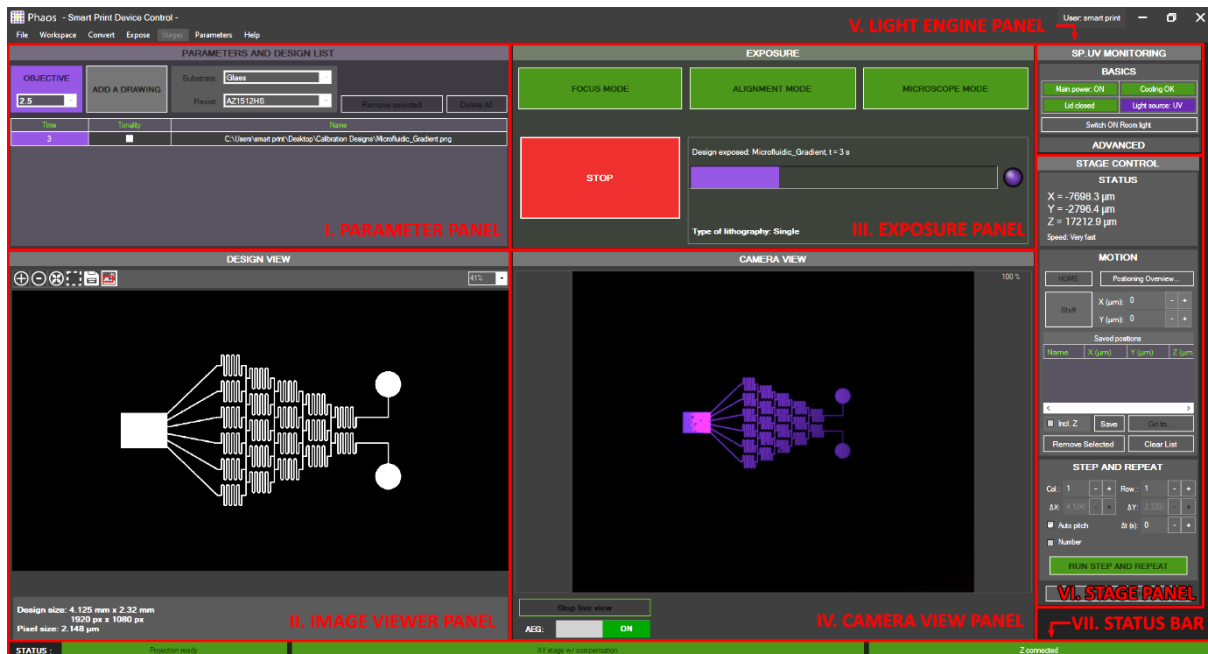
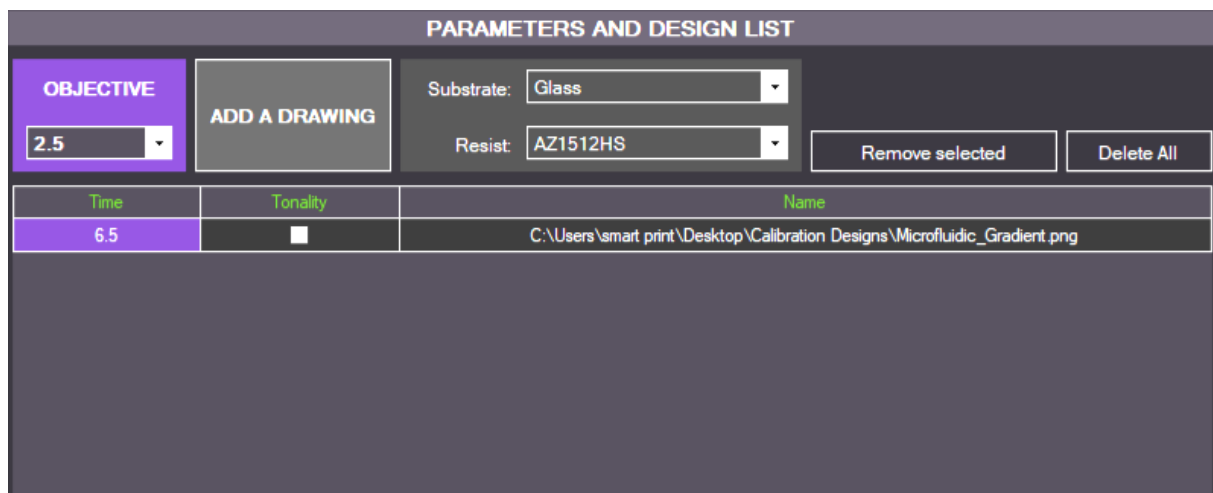

Figure 11 – Phaos main window
Figure 14 - "PARAMETER" panel
The software main interface is composed of 6 panels (Figure 11):
- On the **PARAMETER** panel (Figure 11), choose your **objective**, **substrate** and **resist** from the corresponding drop-down lists (Figure 14).
- Click on the **FOCUS MODE** button in the **EXPOSURE** panel (Figure 11)
- Click on the **EXPOSE SELECTED DRAWING** button (Figure 11) in the **EXPOSURE** panel.
- In the **PARAMETER** panel (Figure 11), choose an **objective**, a **resist** and a **substrate** in the corresponding dropdown lists.
For each design added in the design list (Figure 14), three parameters are displayed: